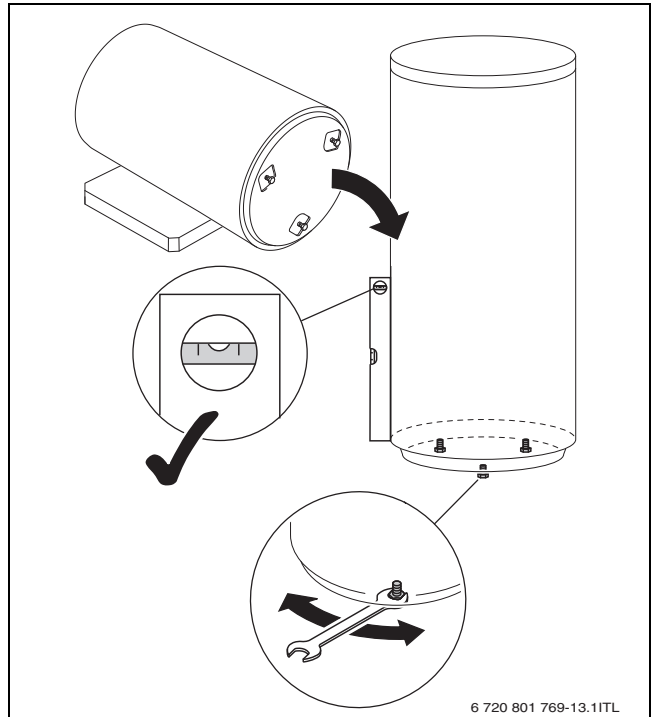

Fig. 8 Positioning the tank
- Position the tank on a level floor that has adequate load-bearing capacity (→ Fig. 8).
- Adjust the adjustable feet so that the DHW tank is vertical (→ Fig. 8).